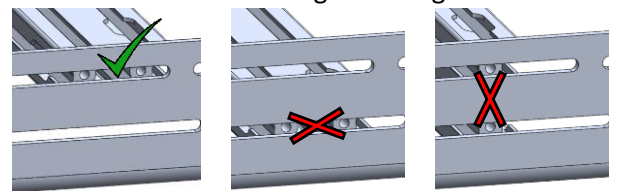

Figure 5: Crossbar Orientation
4. Install at crossbars to connect the driver and passenger side rail subassemblies together. Use measurements of vents or flooring panels to correctly space crossbars. Crossbars can be **only** be installed **horizontally**, on the **top slots** of the side rails. Reference Figure 5 - Figure 7.